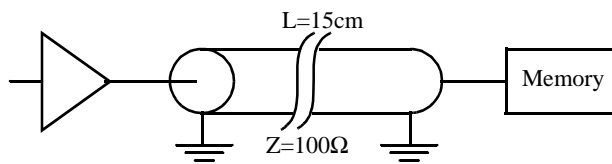

Figure 0.3 The driver, the connecting copper wire and the memory block being accessed.
5. [M, None, 4.x]To connect a processor to an external memory an off -chip connection is necessary. The copper wire on the board is 15 cm long and acts as a transmission line with a characteristic impedance of 100Ω (See Figure 0.3). The memory input pins present a very high impedance which can be considered infinite. The bus driver is a CMOS inverter consisting of very large devices: $(50/0.25)$ for the NMOS and $(150/0.25)$ for the PMOS, where all sizes are